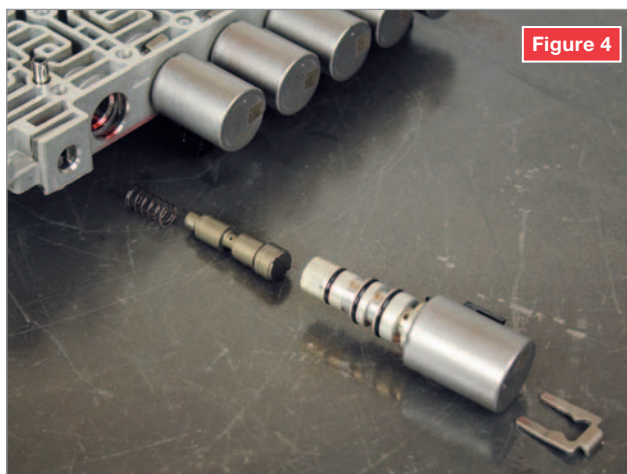
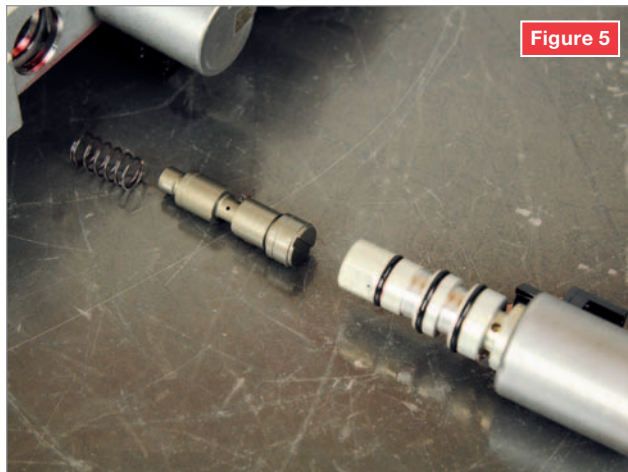

Figure 4
Figure 5
The order of diagnostics would be to first check the o-rings on the S2 (F) solenoid and then inspect the solenoid to see if it has failed mechanically being stuck in the low or high position (**Figure 4**). The next step would be to inspect the condition of the 1-2-3-4-5-Reverse Control Valve in front of the solenoid in the valve body to see if it is stuck or if the bore is worn (**Figure 5**). Next, refer to a hydraulic to see if there are any other valves or check balls in the circuit that would require inspection. In this example, the pressure being sent to the 1-2-3-4-5-Reverse clutch from the regulating valve is also going to the 1-2-3-4-5-Reverse Clutch Boost valve. This, too, will also need to be inspected (**Figure 6**). If all these items pass inspection, it's time to go into the transmission